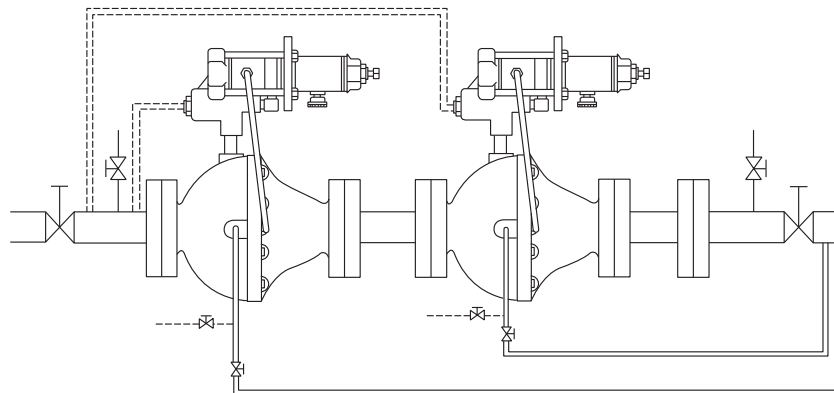

Figure 5. Typical Wide-Open Monitor Installation
Wide-Open Monitors (Figure 5)
2. Connect the control line of a wide-open monitoring regulator (Figure 5) to downstream piping near the working regulator control line connection. During normal operation the wide-open monitoring regulator stands wide-open with the pressure reduction being taken across the working regulator. Only in case of working regulator failure does the wide-open monitoring regulator take control at its slightly higher setting.
As well as applying to a single-pilot regulator (Figure 4), the steps in this procedure also are valid for a wide-open monitoring installation (Figure 5) and should be repeated for each regulator in such an installation.